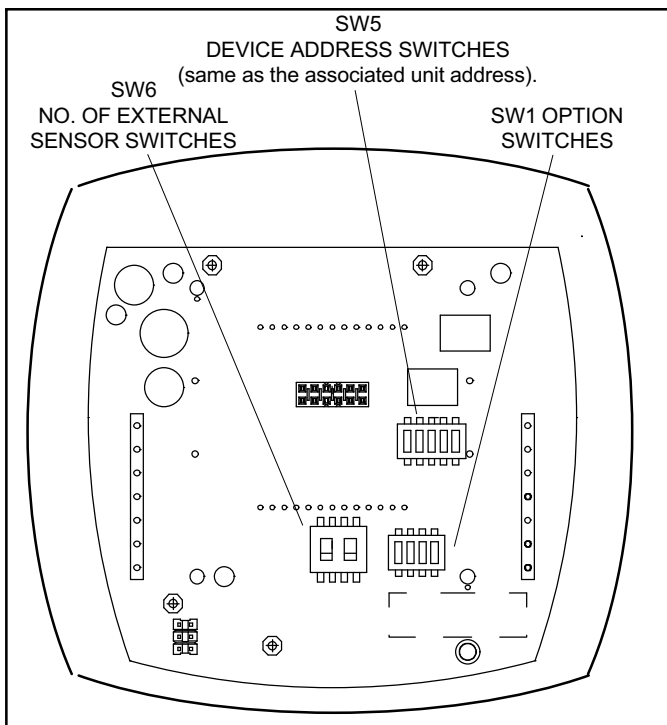
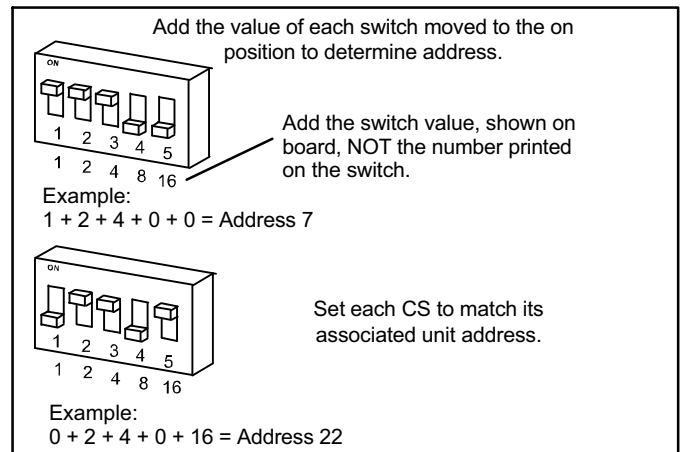
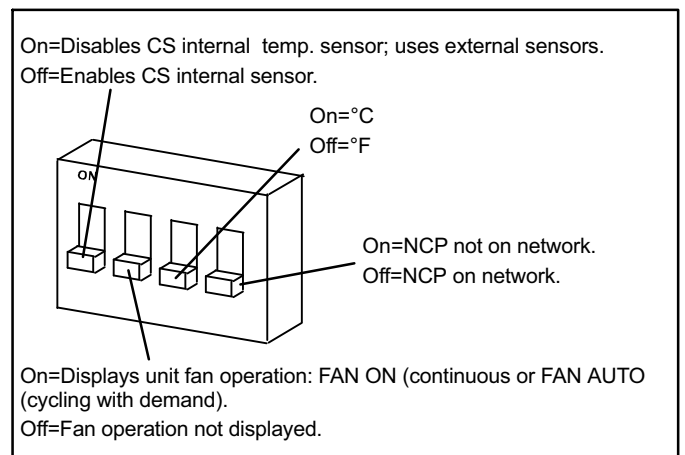

Figure 4. DIP Switches
Figure 5. SW5 Device Address Switches
Figure 6. Control SW1 Option Switches (Shown in Default or Off Position)
See figure 4 for location of DIP switches on inside of cover. Set the SW5 address switch to match the unit address as shown in figure 5. Adjust SW1 and SW6 option switches as shown in figure 6 and 7 when option applies.
- SW5 Device address Figure 5
- SW1 Option Figure 6